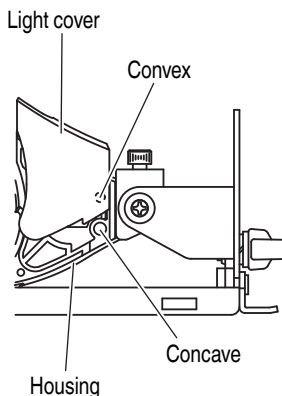

Fig. 18 &lt;Side View&gt;
- (1) Remove the convex part of the light cover from the concave part of the housing, and then pull out the light cover in the arrow-marked direction as shown in Fig. 18.